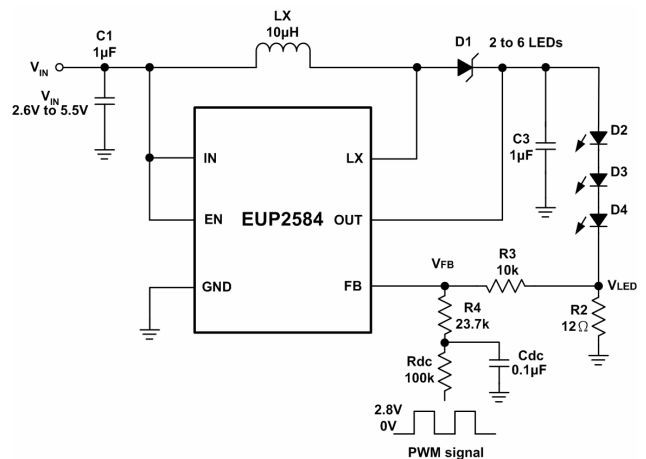
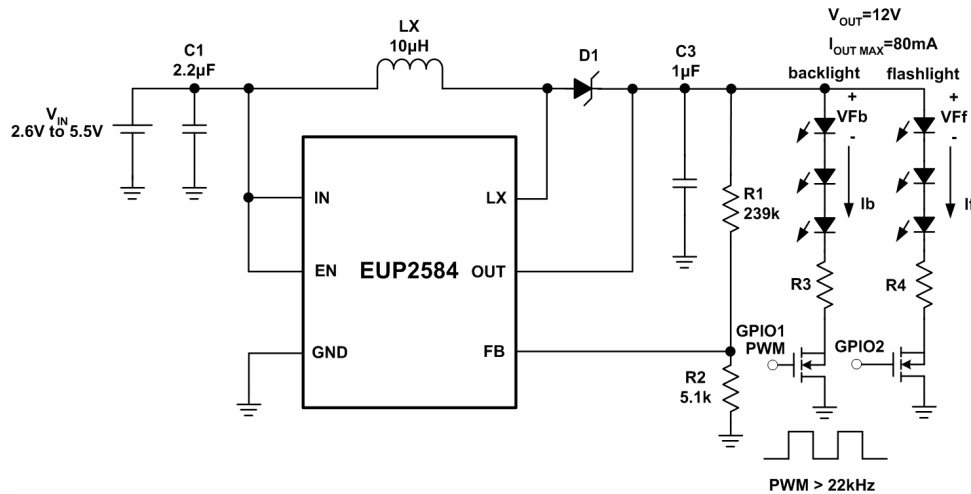

Figure 5. Filtered PWM Signal for LED Dimming Control
Figure 6. Constant Output Voltage for Backlight and Flashlight
Another common application is using a filtered PWM signal as an adjustable DC voltage for LED dimming control. A filtered PWM signal acts as the DC voltage to regulate the output current. The recommended application circuit is shown in the Figure 6. In this circuit, the output ripple depends on the frequency of PWM signal. For smaller output voltage ripple (<100mV), the recommended frequency of 2.8V PWM signal should be above 2kHz. To fix the frequency of PWM signal and change the duty cycle of PWM signal can get different output current. According to the application circuit of Figure 5, output current is from 20.5mA to 5.5mA by adjusting the PWM duty cycle from 10% to 90%.
Figure 6 is an application of EUP2584 for backlight of main panel and flashlight. Setting the divider-resistors (R1 & R2) is to get a constant output voltage that depends on the forward voltage and the numbers of series-LEDs. There are three kinds of mode controlled by the switches - backlight mode /flashlight mode /backlight + flashlight mode. It can turn on backlight or flashlight at one time or both at the same time. Applying different duty cycle of PWM signal above 22kHz to backlight's switch can also control the brightness. The following formula (2)(3) can determine R3 and R4.